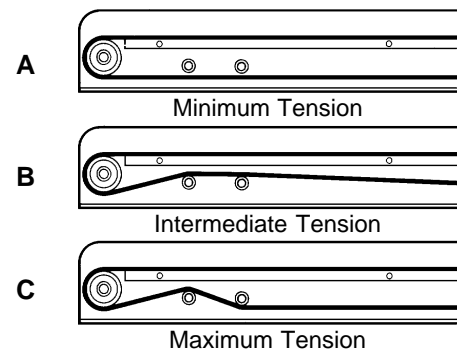
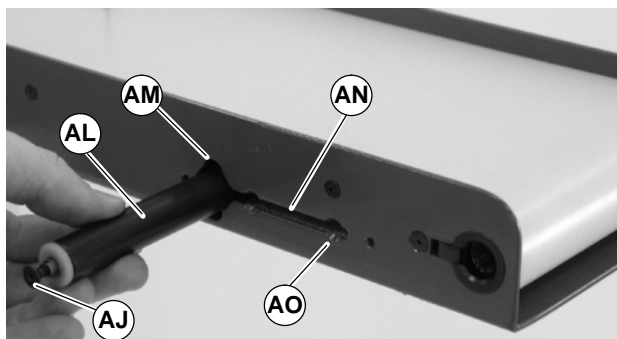

Figure 21
Figure 22
NOTE: Belt tension can be applied in three different settings (A, B or C, Figure 21) for tension adjustment.
1. Locate tension versus conveyor belt as required for tension setting (A, B or C of Figure 21). Insert tension pin assembly (AL of Figure 22) into conveyor frame through hole (AM).